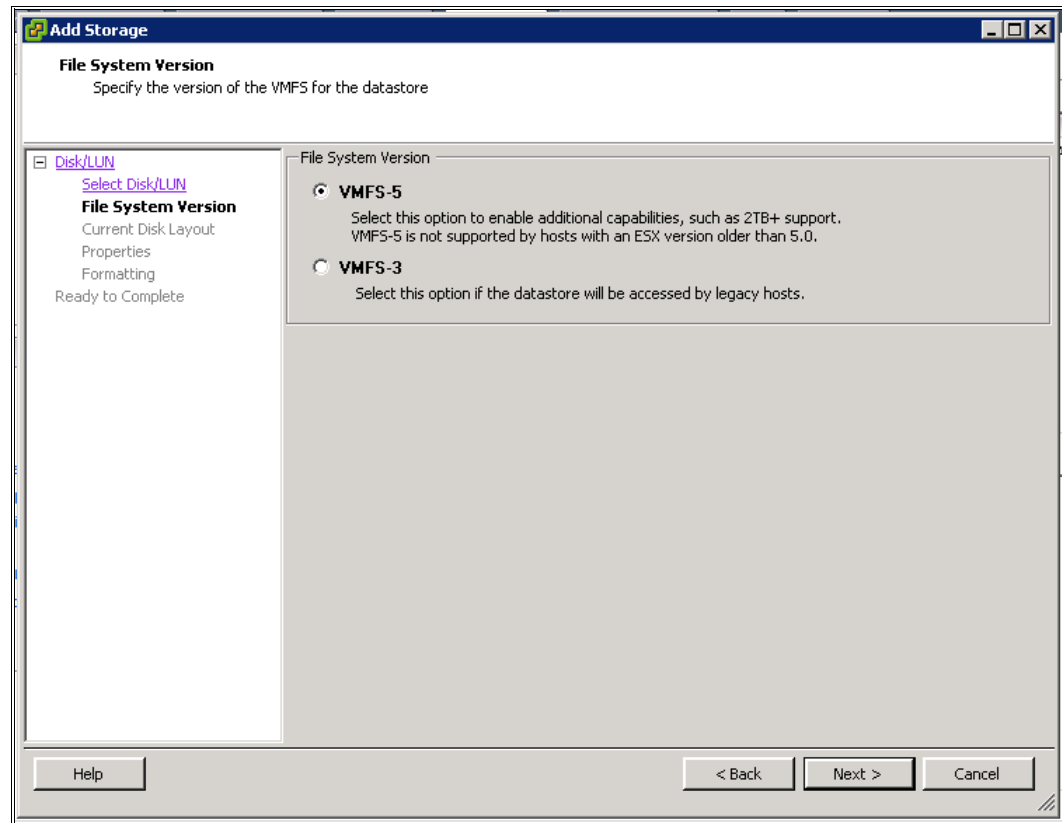

Figure 5-101 Select File System Version
7. Select a File System Version option. In our example, we selected **VMFS-5**, as shown in Figure 5-101.